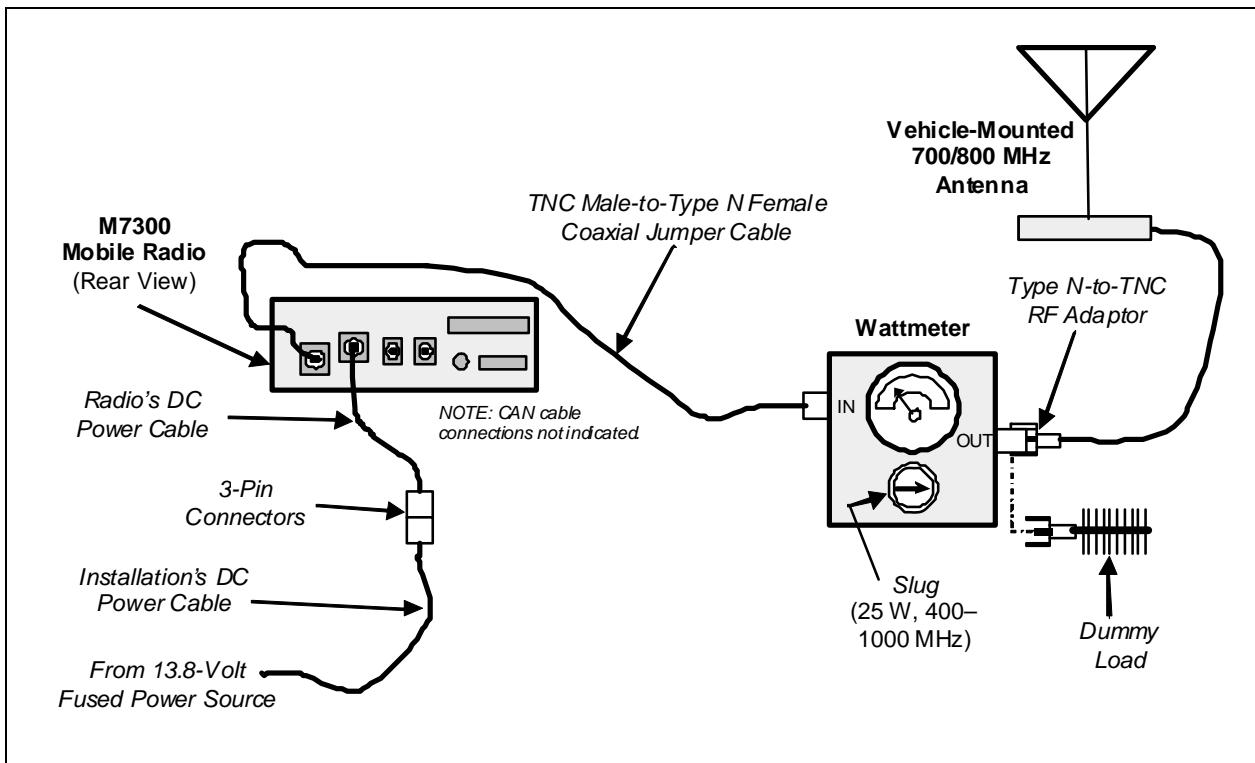

Figure 15-1: Wattmeter Connections for Antenna System Tests
1. Using the Type N male to TNC male RF coaxial jumper cable, connect the radio's antenna connector to the wattmeter's input connector. Refer to Figure 15-1 as necessary.
1. Connect the antenna cable from the vehicle-mounted 800 MHz antenna to the wattmeter as shown in Figure 15-1.